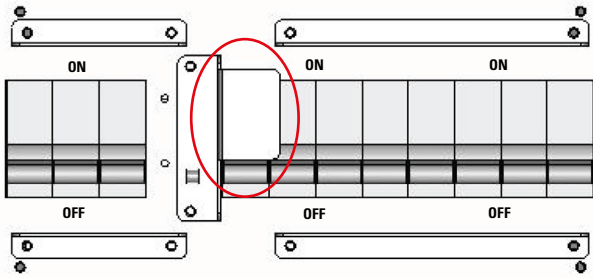

Fig. 59. Mechanical lock of the UPS maintenance bypass switch.
3. Remove the mechanical lock of the UPS manual bypass switch (Q5) (only for tower format devices): unscrew the screws provided and remove the metal cover (see Fig. 59).
10. Replace the mechanical lock of the UPS manual bypass switch (only for tower format devices): screw the metal cover in using the screws provided (see Fig. 59).